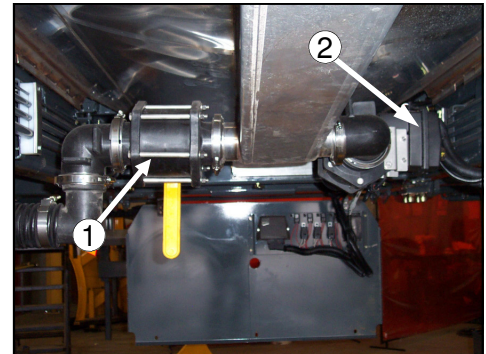

FIG 4.54-1
3. Open the sump valve under the tank (fig. 4.54-1, item 1)